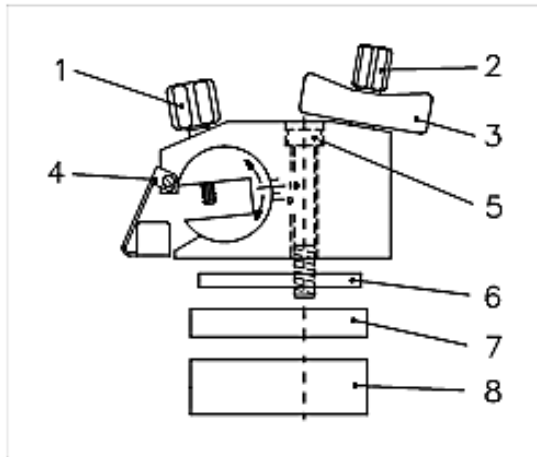

Fig 27
- To insert the knife, slightly unscrew the two clamping screws, Fig 27 (1) until the knife can be pushed in from the side.
- For this, use the two coaxial screws, Fig 27 (2) and (3) on the upper side of the knife carrier.
- Loosen the clamping screw, Fig 27 (3) in a counter-clockwise direction and adjust the clearance angle by means of the set screw, Fig 27 (2).
- Then tighten the screw, Fig 27 (3) in clockwise direction to fix the clearance angle.
- The knife carrier is equipped with a knife guard, Fig 27 (4) which should be used while knife or specimen are adjusted.
- If the cutting edge of the knife is blunt, loosen the clamping screws, Fig 27 (1) and move the knife to the left or right side.